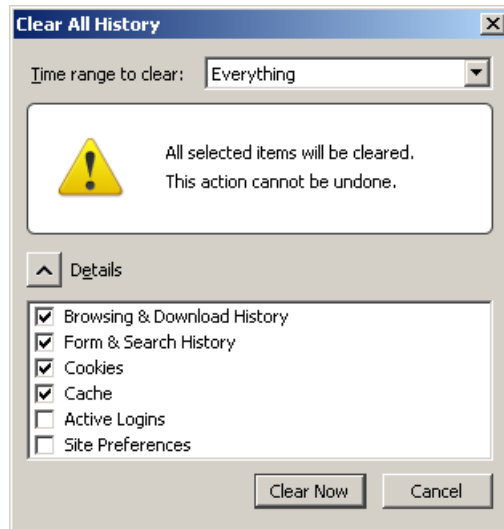

Figure 8: Mozilla FireFox Clear All History
2. Select the options as shown in Figure 8.